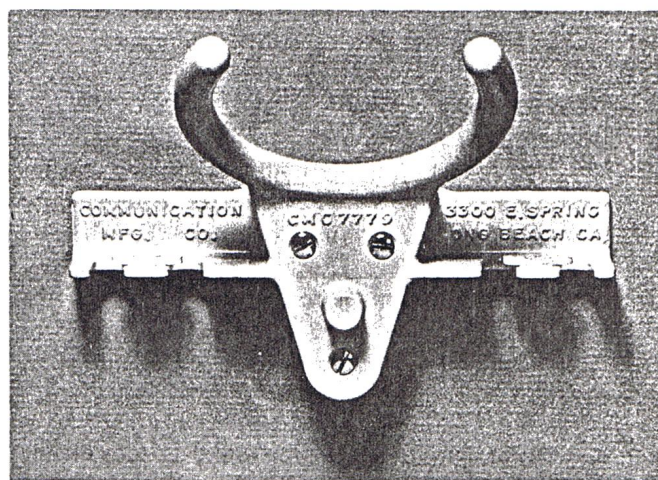

Figure 4 CMC 7779 Hanger Bracket
2.02 A hanger bracket is available to hold the Trub-L-Shooter and extra quick-connect test cords (see Figure 4). It mounts on a wall or at the end of an equipment bay.